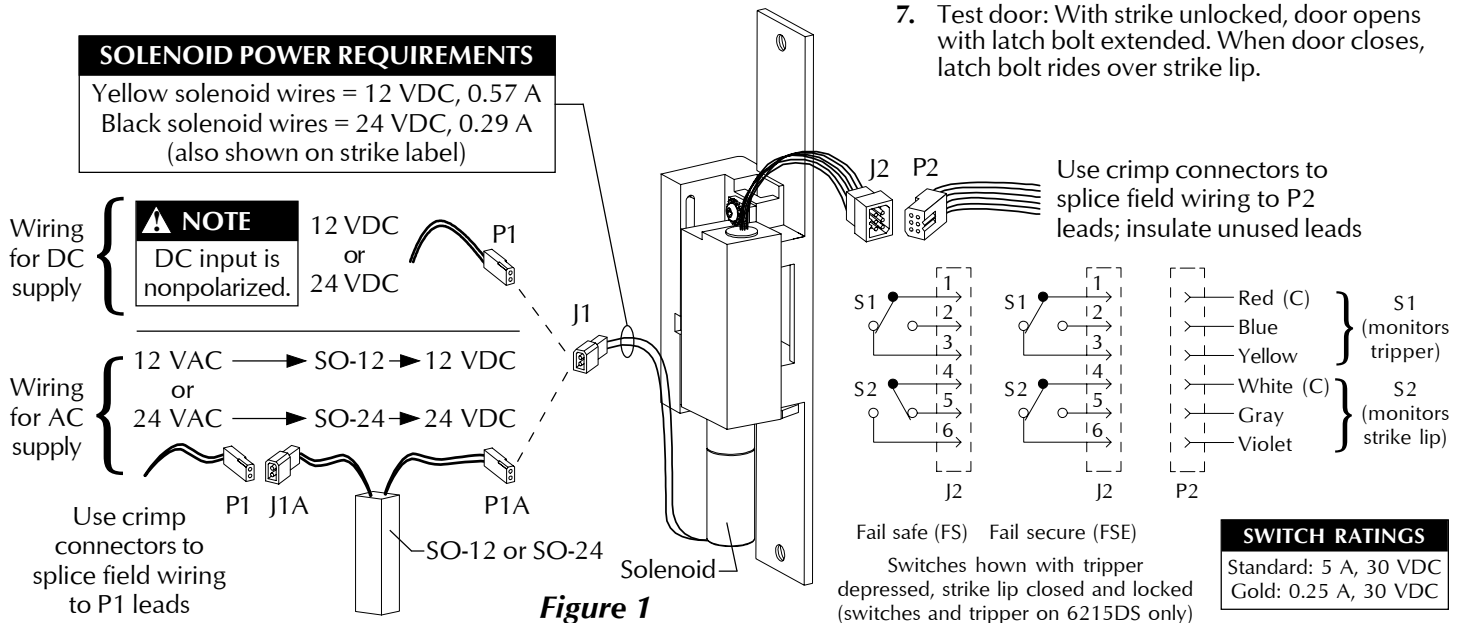

Figure 1
3. Wire strike (Figure 1). (Switches on 6215DS only.)
4. Test strike: Apply solenoid power. Fail secure (FSE) lip unlocks. Fail safe (FS) lip locks. Figure 1 shows status of switches.